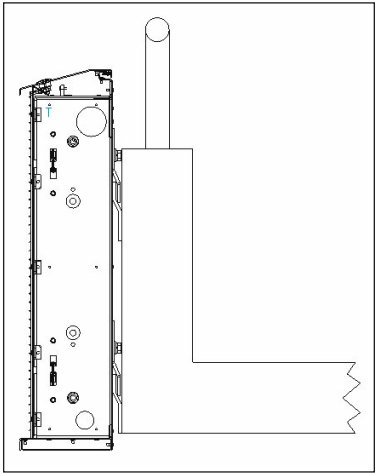

Figure 8: Display Attached to Wall
- 5. Ensure the section is plumb, level, and parallel to the wall. The alignment of the first section is crucial, as it determines the alignment of the entire display. Refer to **Figure 8**.